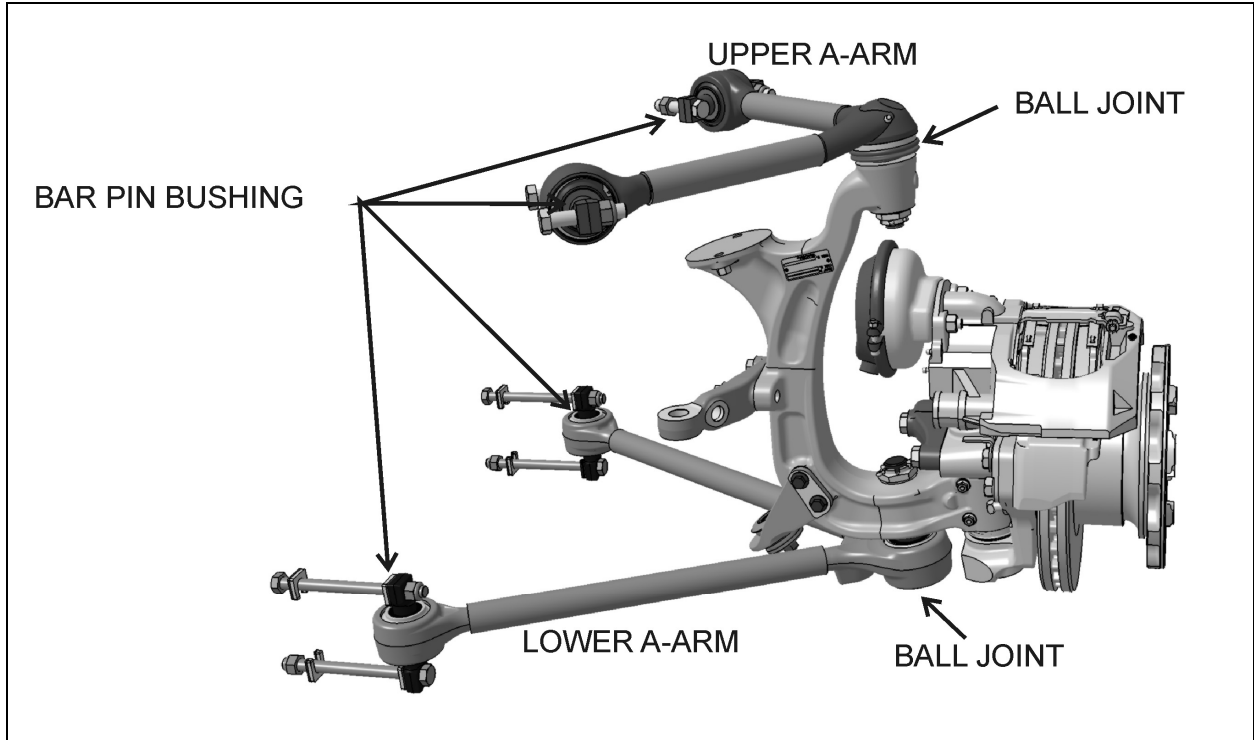

FIGURE 26: A-ARM JOINT IDENTIFICATION
2. Using a pipe wrench, turn the tie rod tubes to obtain the toe-in measurement specified in step 5 under paragraph "Toe-in Check" (figure 26).
Caster variations may be caused by bent upper suspension A-arm, lower suspension A-arm, or kingpin housing. Caster should be adjusted with shims. Precision instruments should be used to measure caster. Shim bell crank and idler arm to adjust caster (figure 26).
See figure 26 & 27.